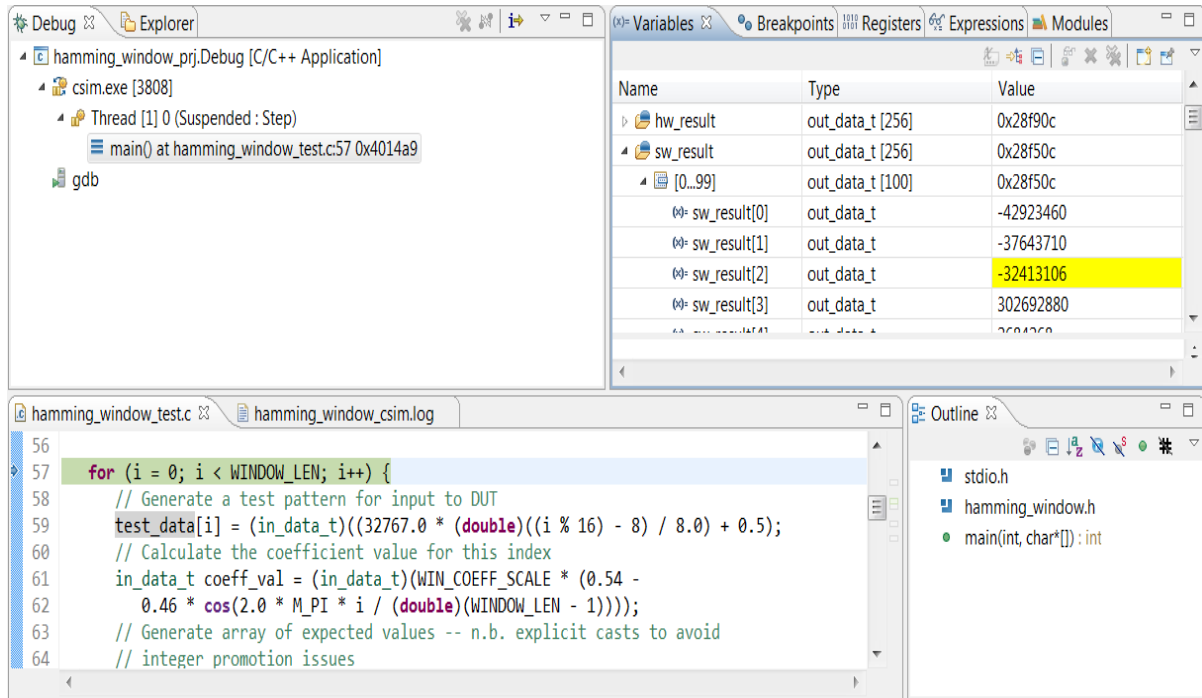

Figure 3-10: Analysis of C Variables
5. Expand the `sw_results` array to the view shown in Figure 3-10.